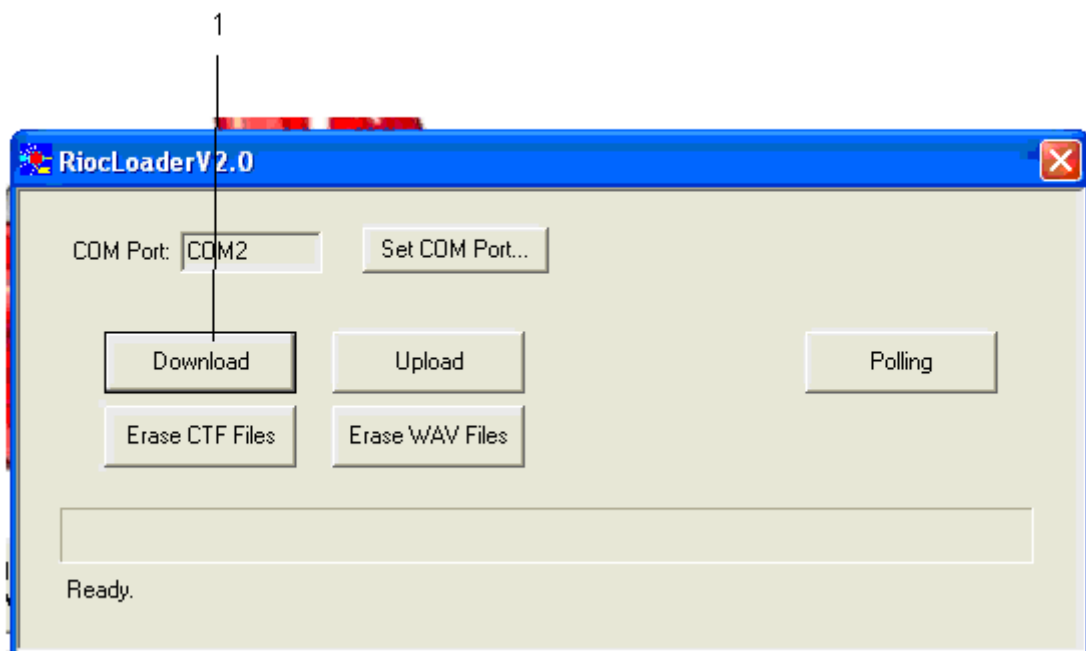

Figure 3
- (11) For RIOCL 3 you must download the files that follow:
- (12) For each configuration file that must be downloaded do Step 2.B.(12)(a) thru (c).
- (a) Select the Download button (Ref. Fig 3, Item 1).